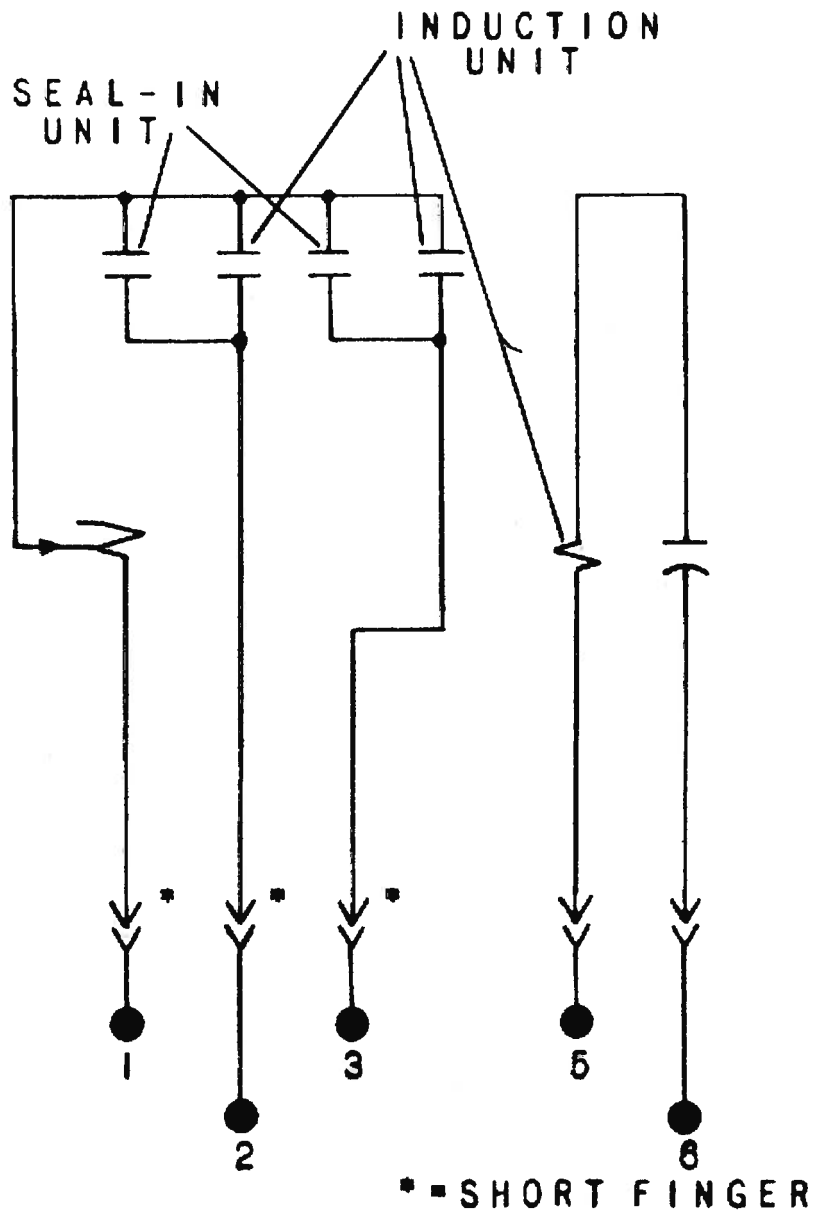

FIG. 5 (K-6556505-0) INTERNAL CONNECTIONS OF THE TYPE IAV52C RELAY, FRONT VIEW
- FIG. 5 (K6556505-0) INTERNAL CONNECTIONS OF THE TYPE IAV52C RELAY, FRONT VIEW